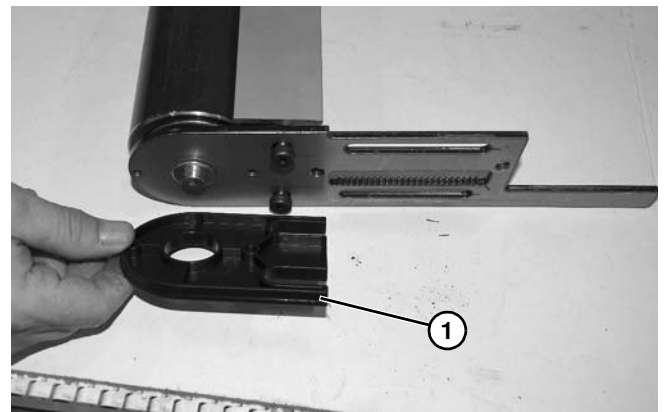

Figure 108
9. Remove bearing housing (**Figure 108, item 1**) from tension tail assembly.